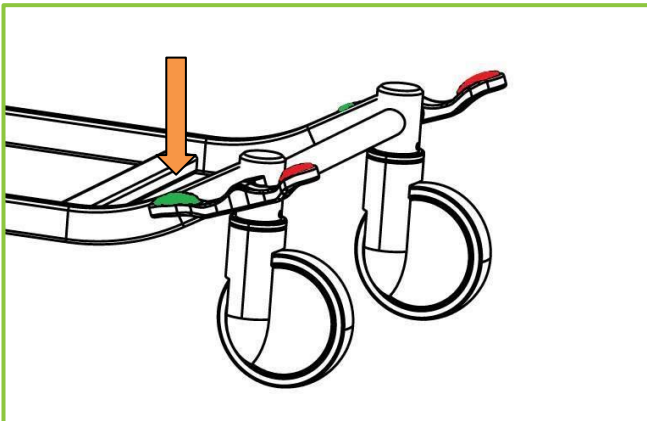

Figure 32 – Brake unlocked
2. To unlock the brake, press the front green part of the foot lever down until the brake disengages. Figure 32 shows the brake unlocked.